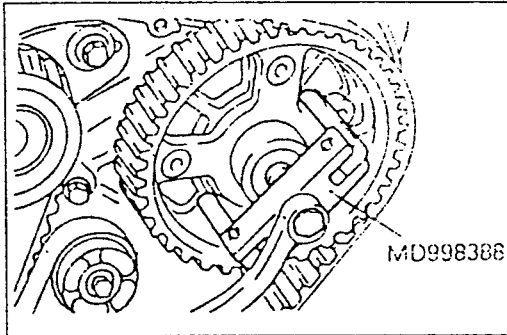

Fig. 15.37. — The injection pump sprocket must be removed with a two-arm puller.
- Use a puller, as shown in Fig. 15.37 and remove the pump drive gear from the shaft. Take care not to damage the sprocket or shock-load the pump shaft. Also take care not to place the timing belt under excessive stress, as the sprocket moves off the injection pump shaft. After removal do not rotate the crankshaft and make sure the timing belt cannot slip off the crankshaft or camshaft gearwheel.